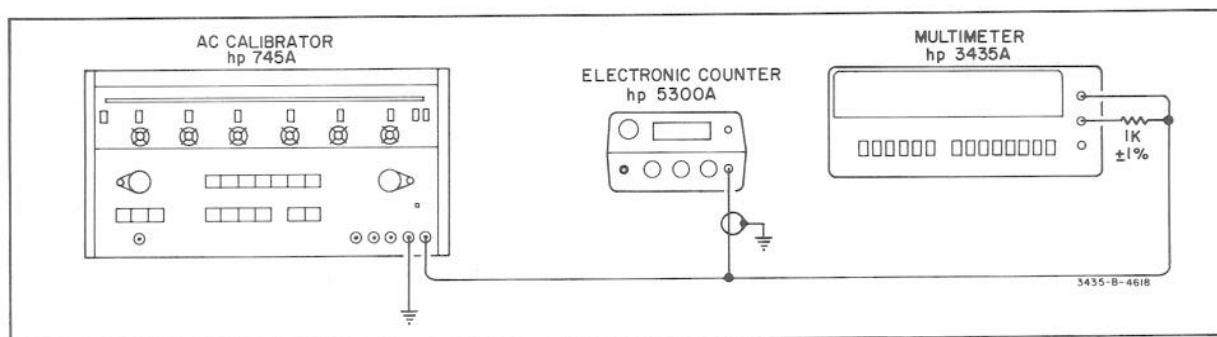

Figure 5-7. Effective Common-Mode Rejection Test.
- Connect an AC Calibrator as shown in Figure 5-7 and set the output amplitude to 100 V at 60 Hz $\pm$ 1 Hz. (Period = 16650 to 16683 μ s.)